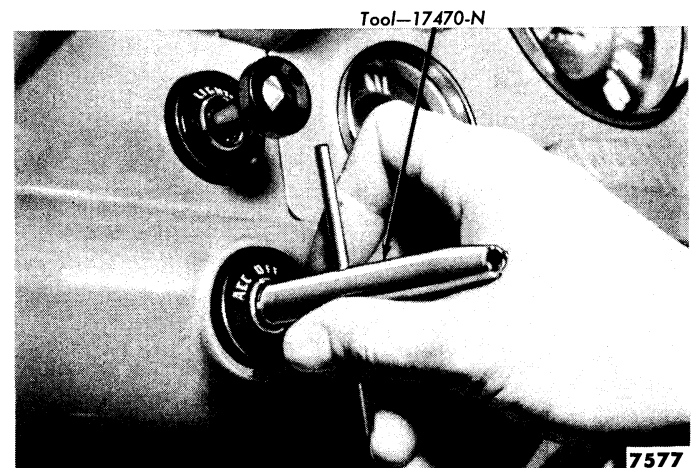

Fig. 16—Ignition Switch Removal
(5) **IGNITION SWITCH.** The ignition switch is removed and installed at the rear of the instrument panel. Press in the switch body from the rear of the panel. Rotate the bezel ¼ turn counterclockwise (fig. 16), then remove the switch from the rear of the panel, and disconnect the wires from the switch terminals.